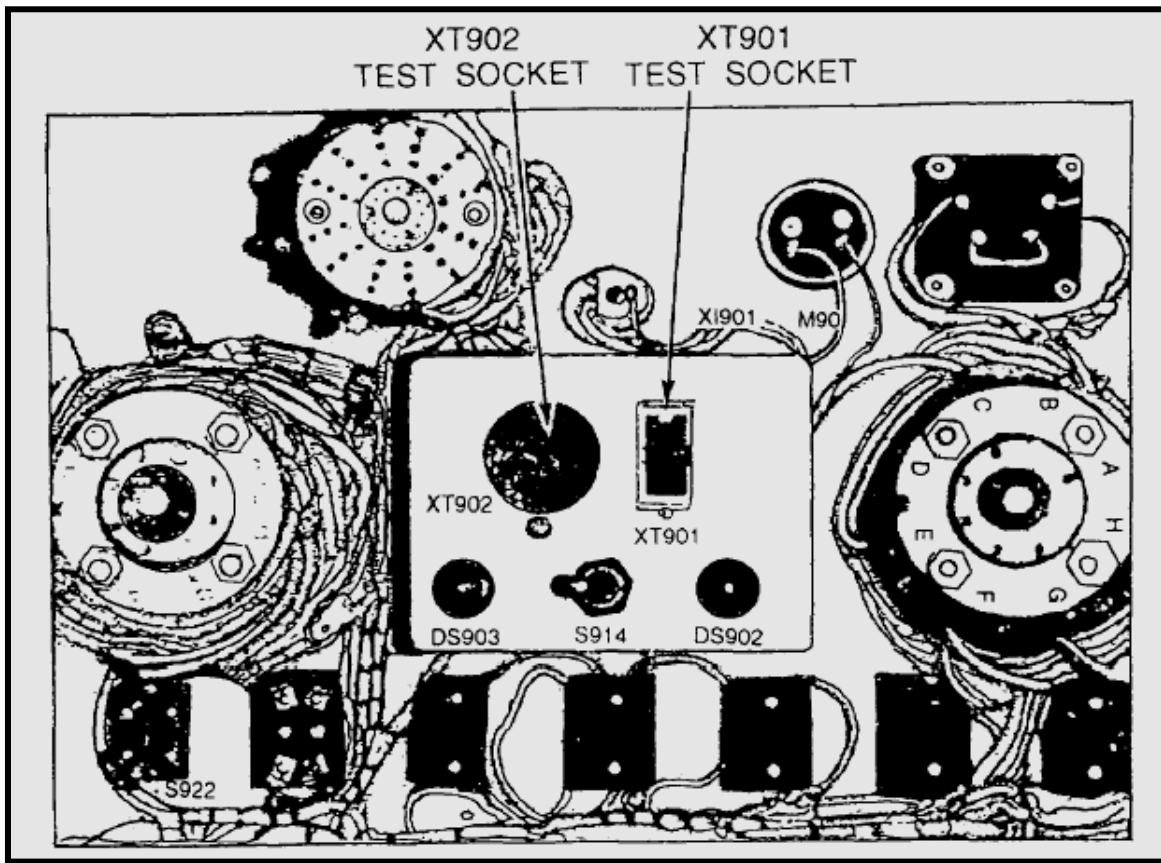

Figure 7-25.— Relay test facility.
**RELAYS.**— If operation indicates that a relay is defective, use the relay test facility located behind the front panel of the control rack to check the relay. The relay test facility (fig. 7-25) consists of two relay test sockets, two indicating lamps, and a test switch. Test suspected defective relays by plugging into the proper socket and operating the test switch. When a crystal can-type relay is tested, both lamps should illuminate in both test switch positions. When a power-type relay is tested, both lamps should illuminate only in test switch position 2.